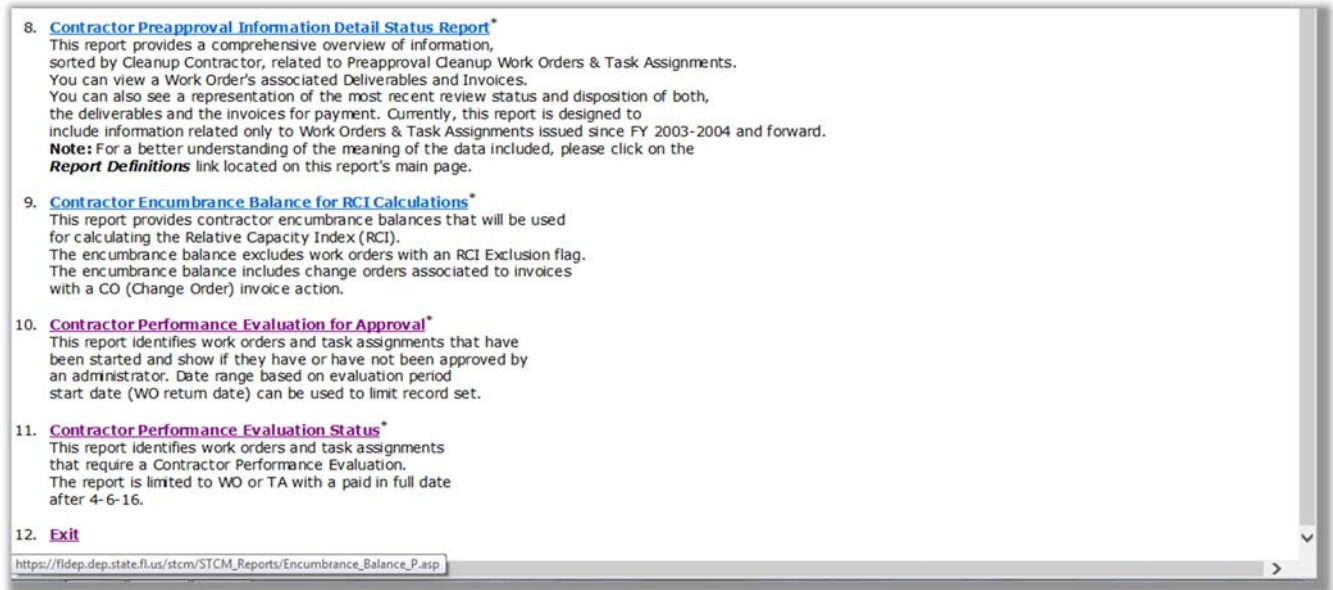

Figure 11
4. At the bottom of the next page (Fig. 11), you can select either of the following reports:
- **Contractor Performance Evaluation for Approval** – This report identifies work orders and task assignments that have been started and show if they have or have not been approved by an administrator. Date range based on evaluation period start date (WO return date) can be used to limit record set. (See Fig. 11, in green.)
- **Contractor Performance Evaluation Status** – This report identifies work orders and task assignments that require a Contractor Performance Evaluation. The report is limited to WO or TA with a paid in full date after 4-6-16. (See Fig. 11, in blue.)